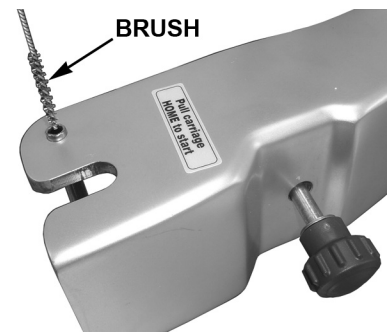

Fig. 16
- Clean the Product Tray pin with the brush as shown (Fig. 16).